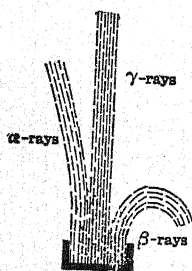

FIG. 352. — Effect of magnet on rays.
3. The  $\gamma$ -rays, or *gamma rays*, appear to have the same nature as X-rays. They are more penetrating than either the alpha or beta rays. The gamma rays are believed to be caused by the impact of beta particles upon the surrounding matter. Figure 352 shows the effect of a powerful magnetic field on the complex Becquerel rays emitted from a small particle of radium. The heavy alpha particles are deflected slightly in one direction; the lighter beta particles are deflected more markedly in the other direction; the gamma rays are not deflected at all.